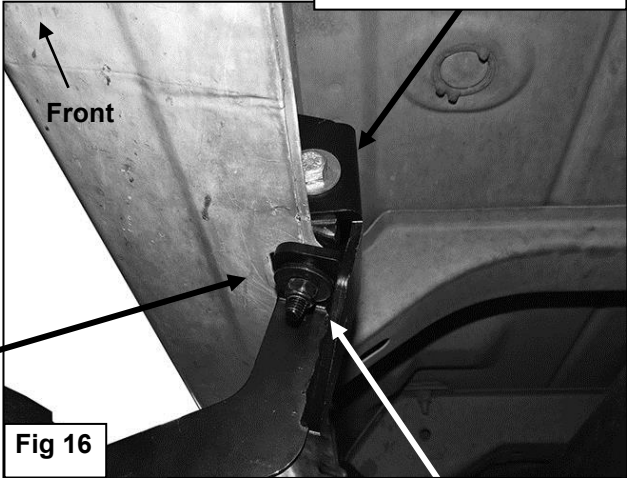

Fig 16
18. Line up the side tab on the Lower Bracket with the threaded hole in the side of the Upper Bracket. Attach the Lower Bracket to the Upper Bracket with (1) 8mm x 25mm Hex Bolt, (1) 8mm Lock Washer and (1) 8mm Flat Washer, (**Figure 16**). Leave loose at this time.
19. Repeat **Steps 1—3** for the (2) remaining passenger side Bracket installations. **NOTE:** Cradles on Brackets installed on passenger side will face forward.